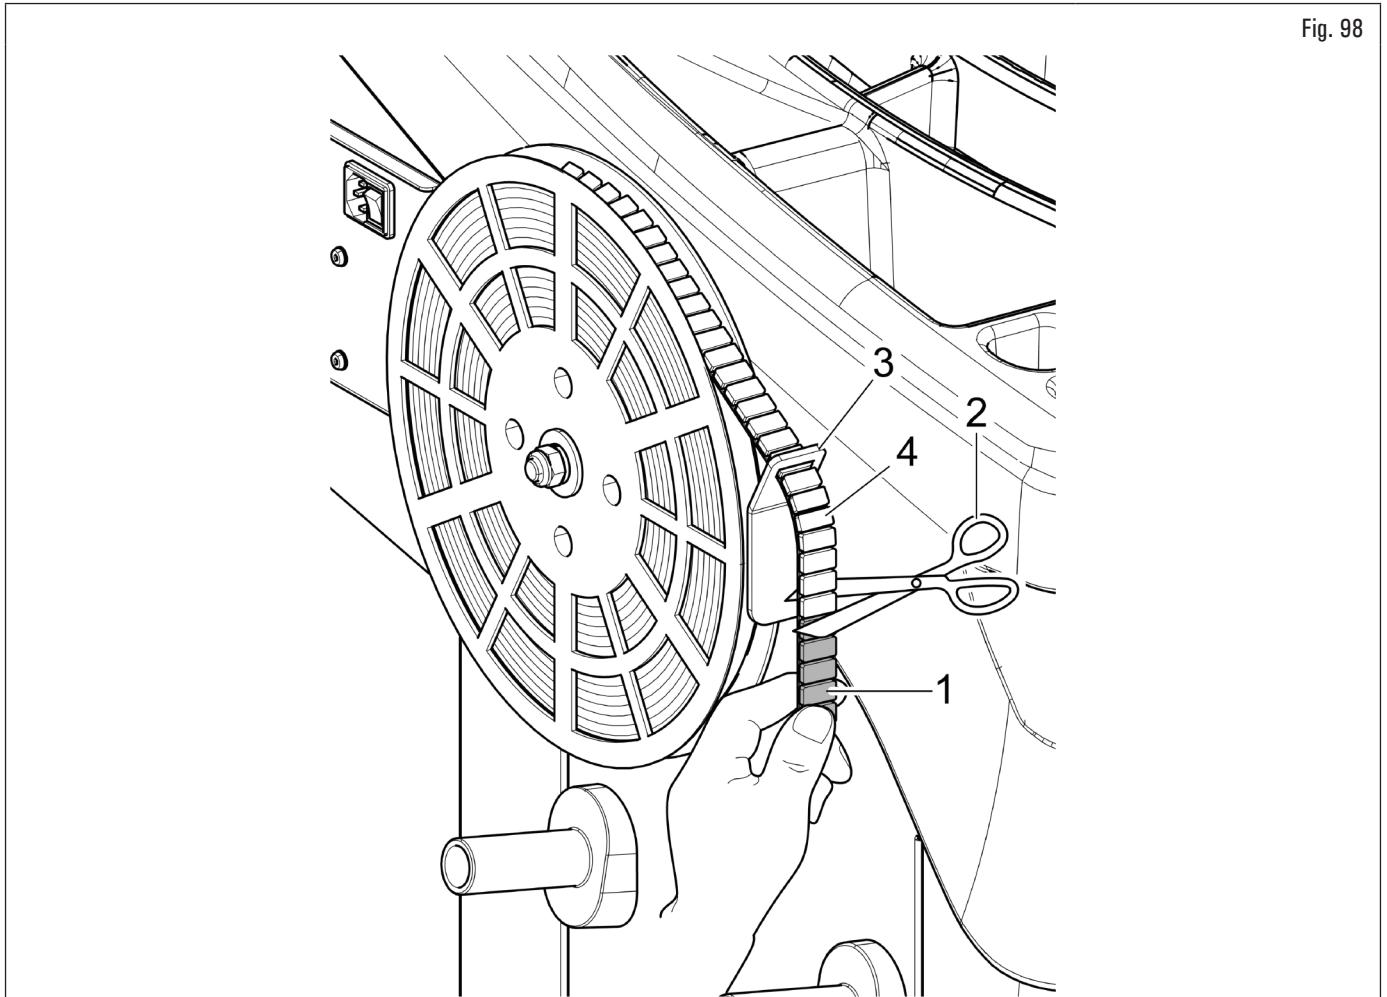

Fig. 98
After the first balancing phase, when the program highlights the weight to be applied to the wheel, simply remove the necessary number of weights (Fig. 98 ref. 1) to reach the quantity required by the equipment and, using scissors or a suitable cutting device (Fig. 98 ref. 2), separate the desired quantity (Fig. 98 ref. 1) from the roll, as shown in the figure below.
To prevent the roll weights from slipping out of their support (Fig. 98 ref. 3) after cutting, make sure to always let a sufficient number of weights (Fig. 98 ref. 4) protrude from the support itself, as shown in Fig. 98.